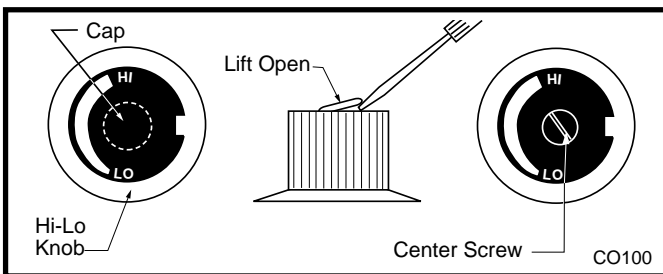

Fig. 70 Remove center screw from Hi-Lo knob.
10. Remove cap from Hi-Lo knob. This can be accomplished by lifting the plastic cap off the screw. (Fig. 70)
11. Remove the screw from center of Hi-Lo knob with small screwdriver turning counterclockwise. (Fig. 70)